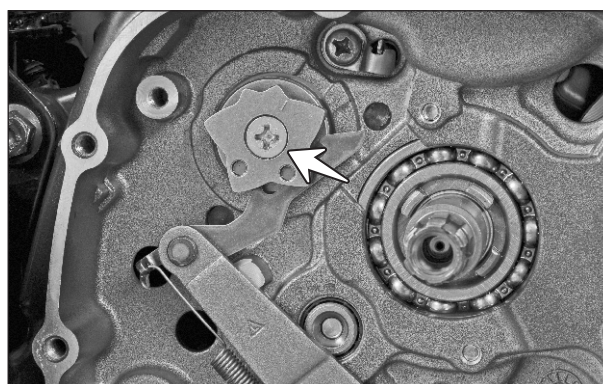

Fig. 3.115
- Remove recessed CSK head screw (M6x20 - 1 no.) from the index star mounting and take out the index star. (Fig. 3.115)